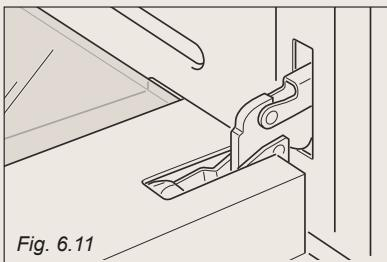

Fig. 6.11
- \* Open the door to the full extent (fig. 6.11).